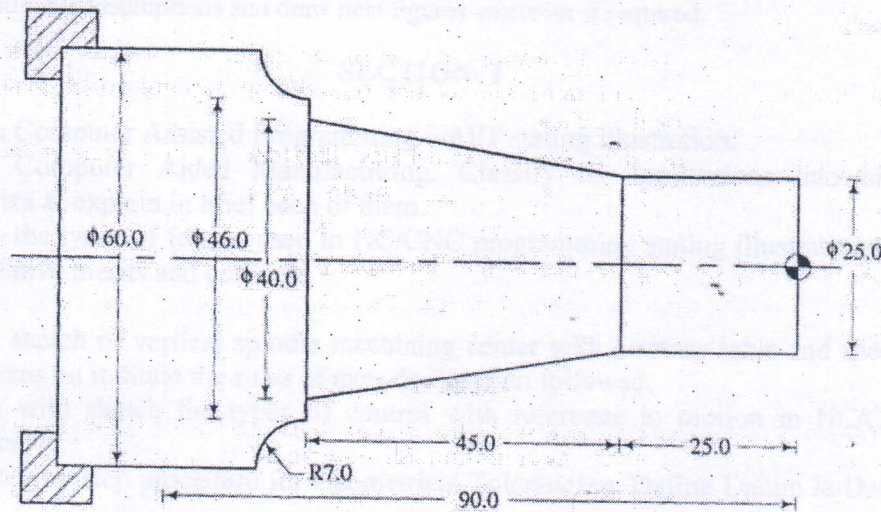

Figure 1.
- (c)** Write manual part program using absolute mode for profile turning a component as shown in figure 1. Sketch tool path showing work piece zero clearly. Assume speed, feed and necessary data stating clearly. 06